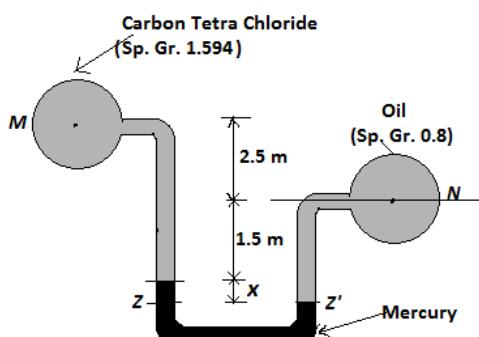

Figure 1
b) As shown in the Figure 1, pipe M contains carbon tetrachloride of specific gravity 1.594 under a pressure of 1.05 kg(f)/cm 2 and pipe N contains oil of specific gravity 0.8. If the pressure in the pipe N is 1.75 kg(f)/cm 2 and the manometric fluid is mercury, find the difference x between the levels of mercury.	07